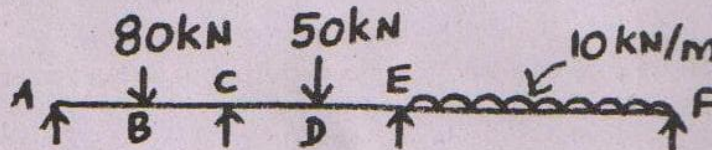

Fig. Q. 12(b)
- (b) For the beam given in fig. Q. 12(b), find the moment and reaction at the supports. Draw SFD and BMD. Take  $AB = 2 \text{ m}$ ;  $BC = 3 \text{ m}$ ;  $CD = 4 \text{ m}$ ,  $DE = 3 \text{ m}$ ,  $EF = 8 \text{ m}$ .